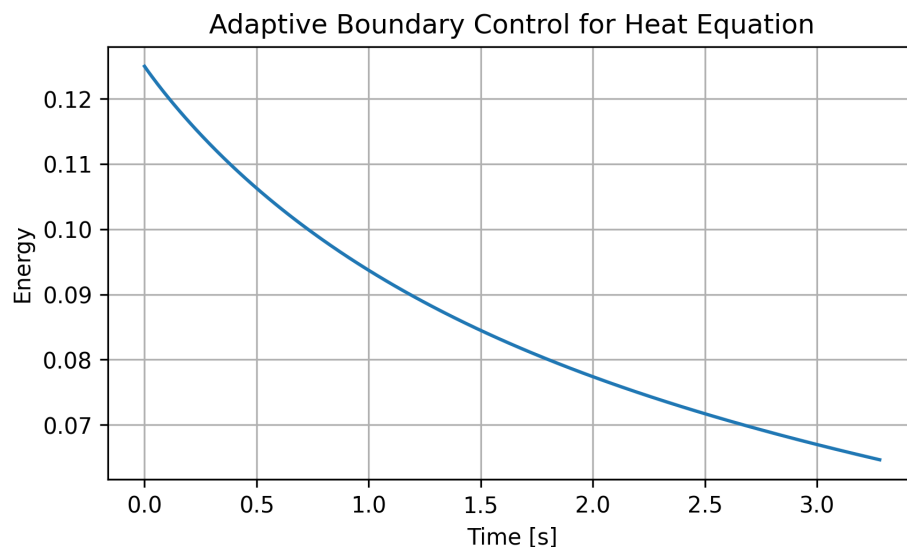

Figure 9.2: Energy decay for an adaptively controlled heat equation (based on concepts from Krstić et al. [6]).
1. Using the same `learning` tutorial command generates Figure 9.2. The script discretizes the heat equation, applies adaptive boundary control, and plots energy decay.
- **PDE insight:** interpret the energy plot (Figure 9.2) as a Lyapunov witness and observe how adaptive boundary control shapes  $E(t)$ .